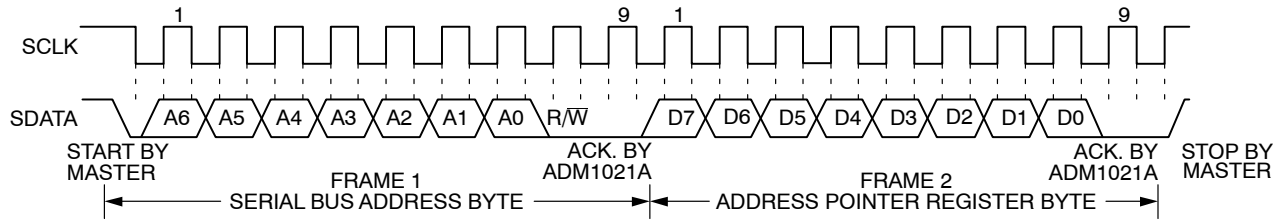
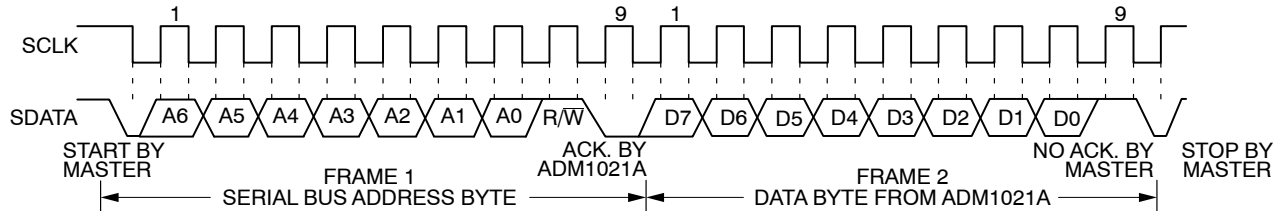

Figure 15. Writing to the Address Pointer Register Only
Figure 16. Reading Data from a Previously Selected Register
1. If the ADM1021A's address pointer register value is unknown or not the desired value, it is first necessary to set it to the correct value before data can be read from the desired data register. This is done by performing a write to the ADM1021A as before, but only the data byte containing the register read address is sent, because data is not to be written to the register. This is shown in Figure 15. A read operation is then performed consisting of the serial bus address, R/\bar{W} bit set to 1, followed by the data byte read from the data register. This is shown in Figure 16.
2. If the address pointer register is known to be already at the desired address, data can be read from the corresponding data register without first writing to the address pointer register, so Figure 15 can be omitted.